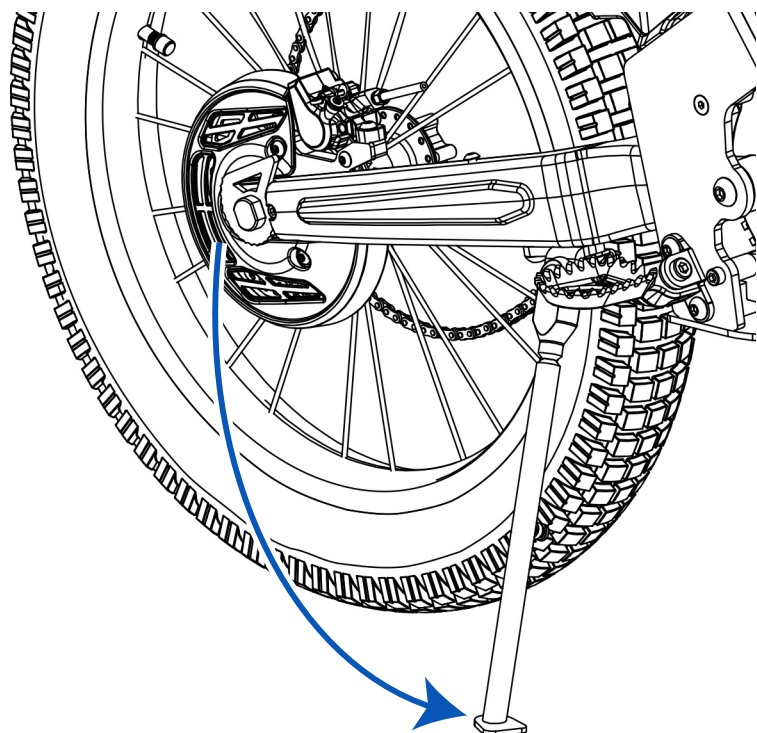
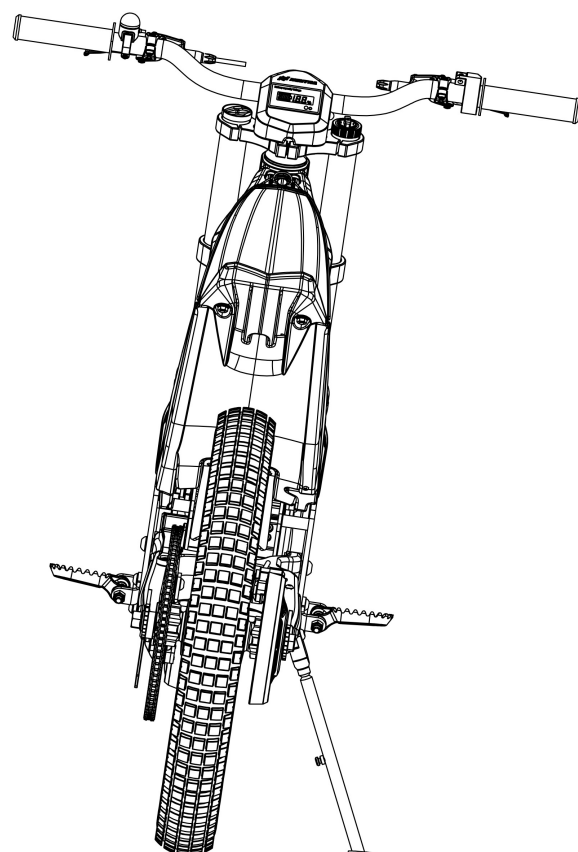

Fig. 4a
Fig. 4b
7. The motorcycle must be placed in an upright position and the folding side stand must be lowered (Fig. 4a), to keep the motorcycle fixed and prevent it from falling (Fig. 4b). You must ensure that the motorcycle is placed on a flat surface.